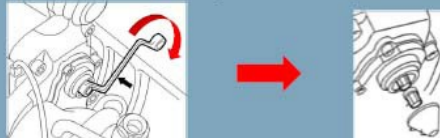

Figure 15 - Install Brake Pads
1.16. Install brake pads, installing new brake pads (see Figure 15).